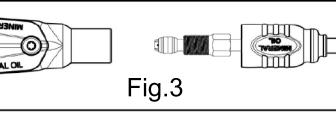

Fig.3
- ④ Place the protective sleeve, oil pipe joint, and olive sleeve F in sequence on the oil pipe. When inserting the O-ring into the oil pipe head of the F-type olive sleeve (pay attention to the installation direction, insert the larger end of the F-type olive sleeve into the oil pipe head), there will be a slight in place feel as the olive sleeve is in place. If the olive sleeve cannot be pulled off by pulling it out, it indicates that the olive sleeve has been installed in place. (Fig. 3)